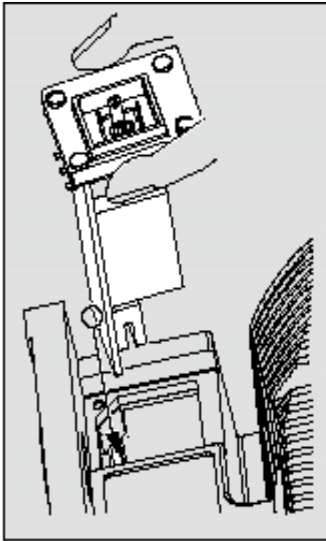

Fig. 17
- Hold the relay component with your right hand gripping the left and right hand edges of the relay cover, and tilt the front end slightly to the left (see fig. 17)